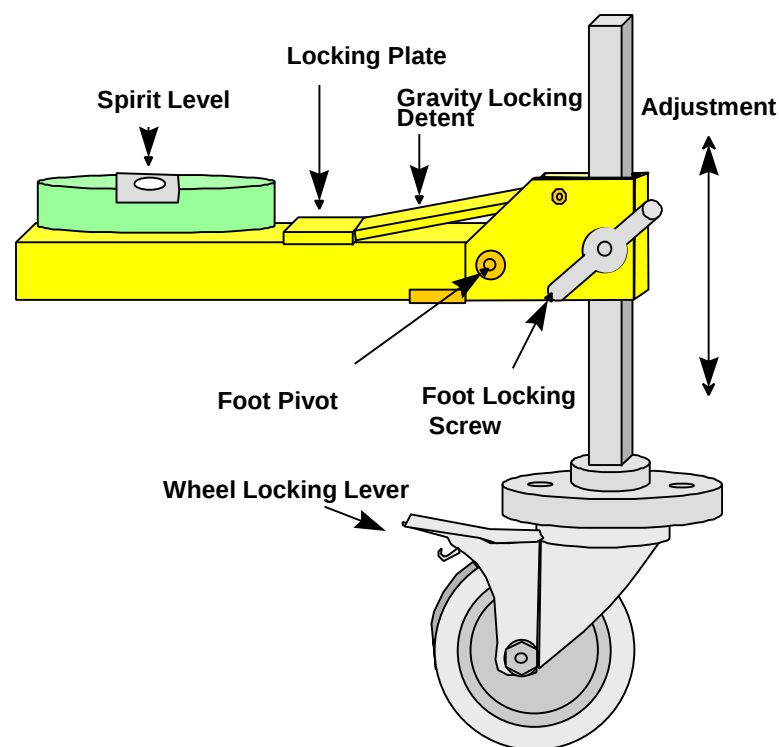

Figure 5. Setting-Up The Feet
7. Twist the feet into position ensuring that the gravity locking detent is latched behind the locking plate. See Figure 5.
The check digit is the units column sum of all the digits minus one in this example $8+2+1+4=15$ therefore the units column contains the figure 5 subtract $1 = 4$